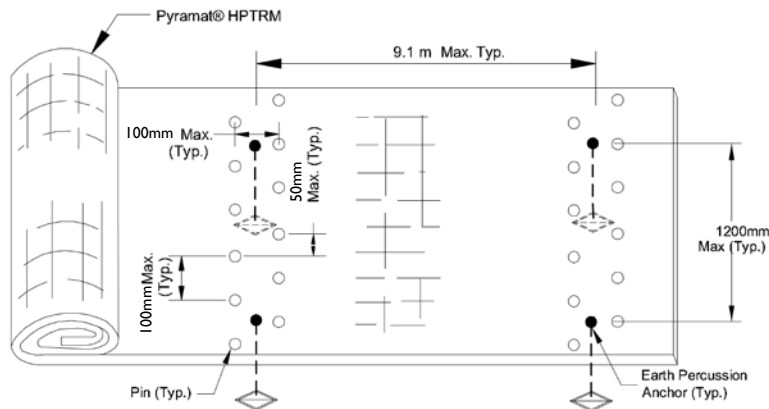

FIGURE 7: SIMULATED CHECK SLOT DETAIL
- For slope heights greater than 13.7m, install simulated check slots per Figure 7. This method included placing two staggered rows of pins 100mm centers on 100mm centers and one row of earth percussion anchors on 1.2m centers at 9.1m intervals (see Figure 7) or across the midpoint of the slope height for slope heights less than 18.2m.